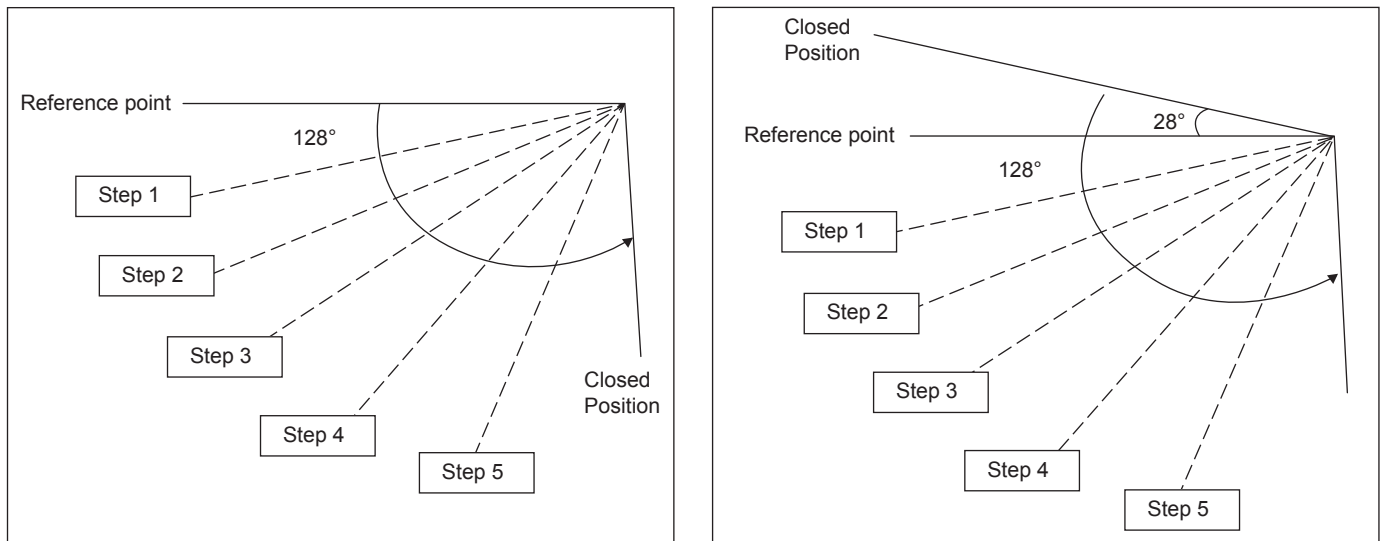

Figure 2
- Manual vertical airflow direction can be set using remote control; the angles of the vane are as stated above and the positions of the vane are as Figure 2 below. When the air conditioner is stopped using remote control, the vane will shift to close position.